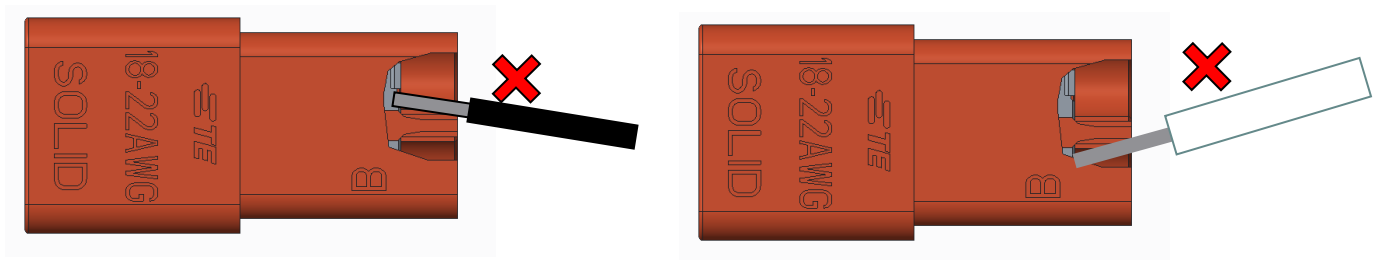
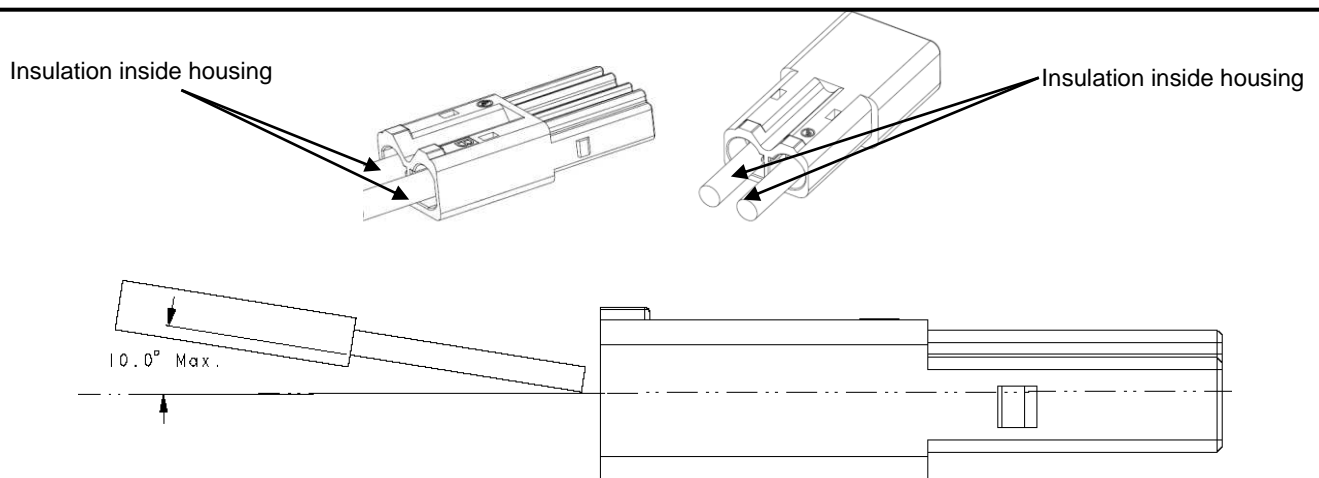

Figure 3
Figure 4
3. Insert each stripped wire into a poke-in slot in the back of the plug or receptacle until bottomed. During the insertion process, make the tip of wire touch on the lead in feature and insert the wire with an angle as shown on Figure 3. The maximum allowed insertion angle in vertical direction is 10° (Figure 4).